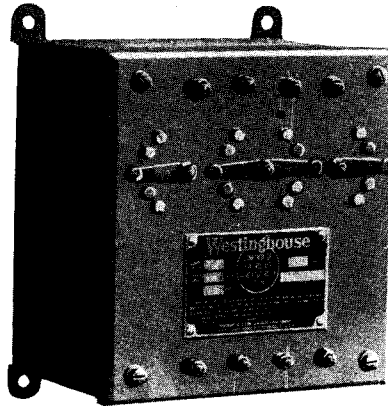
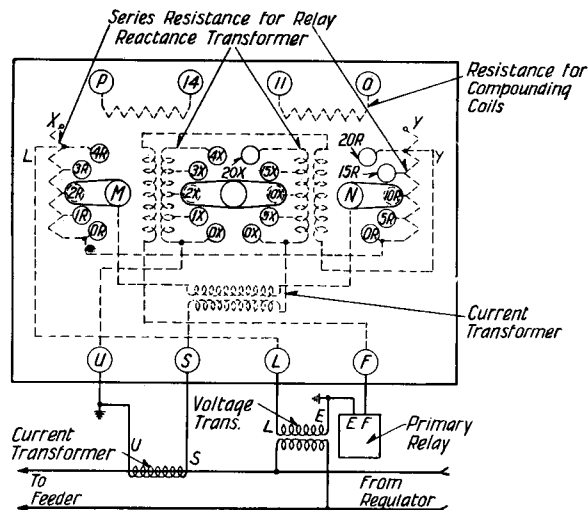

FIG. 14—TYPE KC COMPENSATOR
FIG. 15—DIAGRAM OF CONNECTIONS FOR TYPE KC COMPENSATOR
75. The Type KC compensator is shown in Fig. 14. Diagram, Fig. 15, shows the internal connections and the method of connecting to the feeder. The compensator consists essentially of a reactor transformer, a resistor and a current and insulating transformer. In this compensator the series resistor for the primary relay is provided with taps which connect to two 5 point dials so that transformed current proportional to the line current is forced through more or less of this series resistance. As the line current increases the voltage drop across the resistance is increased requiring a higher feeder voltage to keep the relay contact arm balanced in the mid position. For zero resistance compensation, both outside contact arms should be moved to the lower contacts marked OR. The current transformer ratio and the taps on the resistors are so arranged that one volt and five volt resistance compensation steps can be obtained respectively on the left hand and right hand dials. It is thus possible to get from 0 to 24 volts resistance compensation in 24 one volt steps. The double inside dials